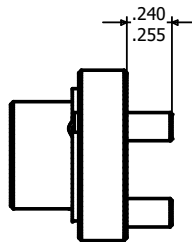

Fig. 1 - SINGLE REDUCTION SPIDER
The spider w/ pins (28) should be pressed out of the rear of the gear case (31). Remove the retainer ring (26) and press the bearing (27) out of the front of the gear case (31). If replacement of the idler gear pins (30) is necessary, they should be pressed out of the rear of the spider (28). See Figure 1 for replacement pin height.